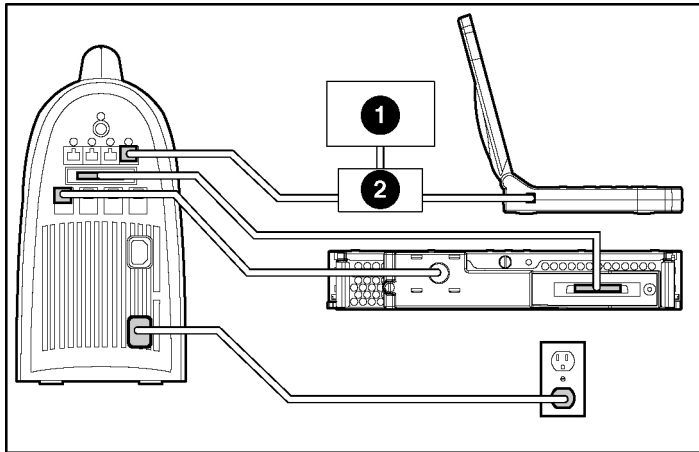

Figure 17: Completed network cabling method
Figure 17 shows a completed network cabling method with the DHCP server (1) and the hub (2).